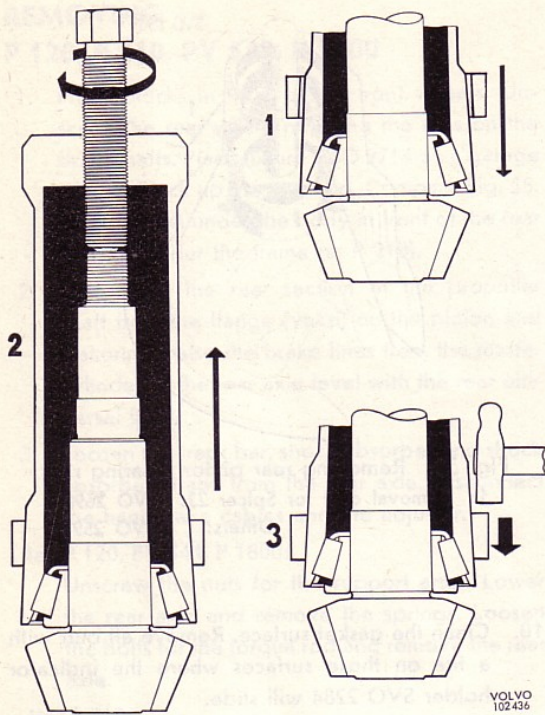
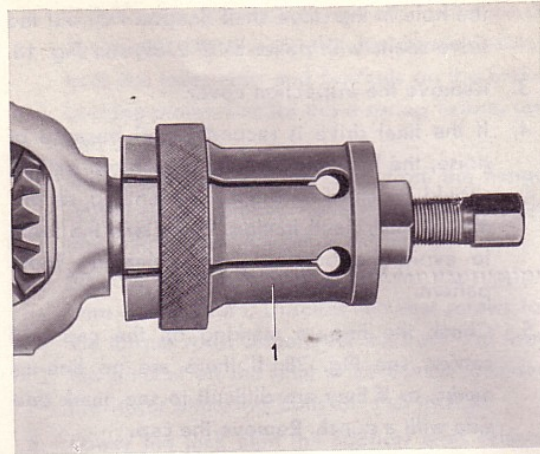

Fig. 32. Fitting puller
Fig. 34. Removing differential carrier bearing
The puller is fitted in the following way: Slide the puller down over the rollers and press down the lock ring. Then pull up the puller by means of the screw until the rollers are flush against the edge of the inner race and also the edge of the puller. Tap the lock ring with a hammer. See also Fig. 32.
3. Remove the differential carrier bearings with puller SVO 2567 for the Spicer 23 final drive unit and SVO 2483 for the other types of final drives, see Fig. 34. Concerning fitting the puller, see also Fig. 32. Take care of the shims.